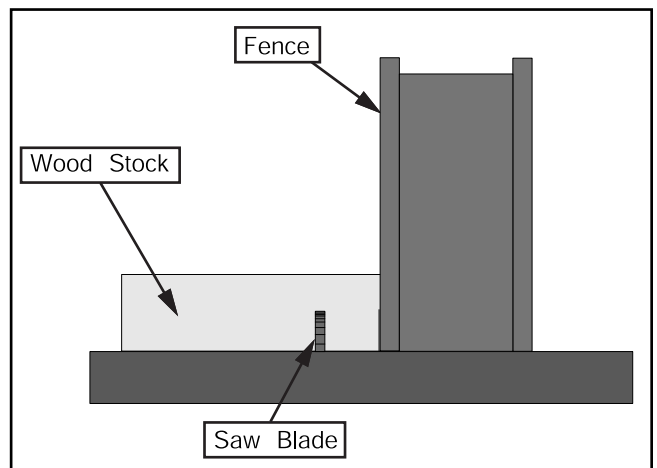

Figure 56. Rabet cutting.
3. If the rabbet runs the length of the material, adjust the fence so the blade is aligned with the inside of your rabbet channel as shown in **Figure 56**.